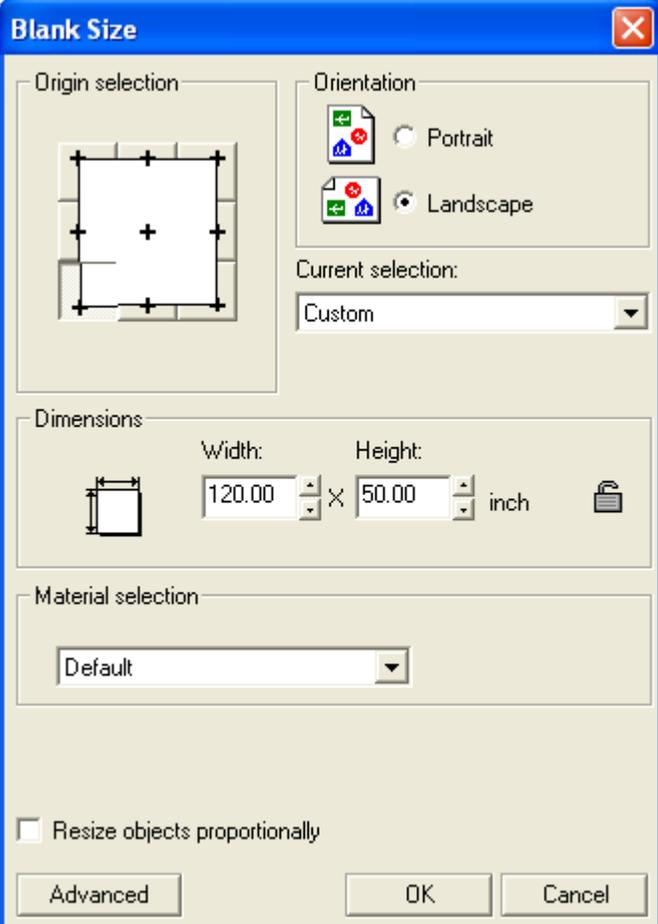

Fig. 3 - In the **Blank Size** dialog, use the following settings:
3. The **Blank Size** dialog should appear as in Fig. 3.
4. Click **OK** to accept the settings as per Fig. 3, and the view will display the new sign blank (Fig. 4).